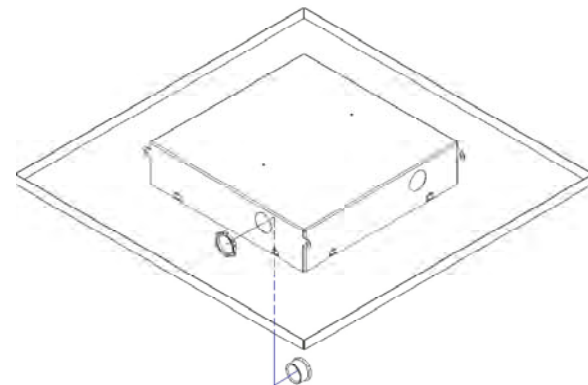

Figure 2
Step 1 – Place the ceiling enclosure backbox on the work surface. Determine which knockout is to be used to bring in the data cable and remove the knockout. Install the conduit fitting from the inside of the enclosure. Insert the conduit fitting through the hole with the nut installed from the outside of the enclosure (Ref. Figure 2).